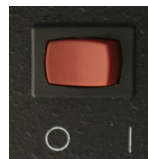

Figure 2-29 Power switch for the ACCQPrep
2. Turn ON the power to the ACCQPrep. A red light on the AutoSampler will light up, the arm will move to the HOME position, and then the light will turn blue (Figure 2-29).